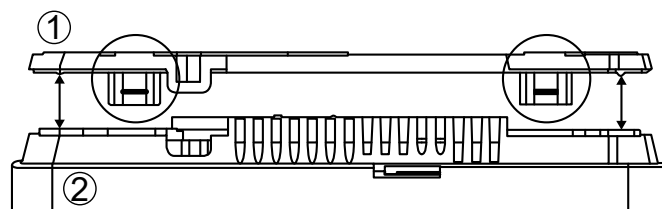

Figure 3-2: touchscreen display & back plate
1. Detach the mounting plate from the back of the touchscreen display. The plate is attached to the touchscreen with latches. Use a flat screwdriver to detach the plate. (See Figure 3-2)